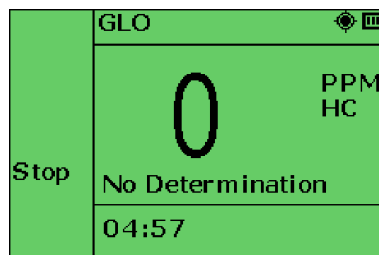

Figure 43: PGT Sampling
2. Press **Zero** button to zero the flammable ranges and begin sampling. This will initiate a 5-minute countdown (as shown in Figure 43: PGT Sampling) during which time the gas leak survey should take place.